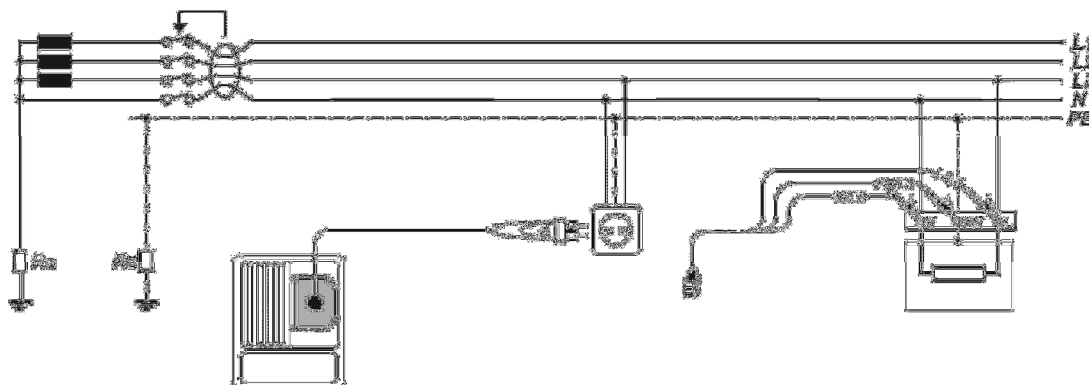

Figure 5.17: Connection of the optional "Commander" test plug (044149) and the three-wire test cable
- ❑ Connect the test cables to the test object (see figure 5.17).
- Connect the test cables to the test object (see figure 5.17).
<ul style="list-style-type: none"> <input type="checkbox"/> Select the F/RCD function by means of the function selector switch. <input type="checkbox"/> Set the sub-function to AUTO. <input type="checkbox"/> Set the testing parameters. <input type="checkbox"/> Connect the test cables to the test object (see figure 5.17). <input type="checkbox"/> Press the "TEST" key to start the measurement. 	Start of test